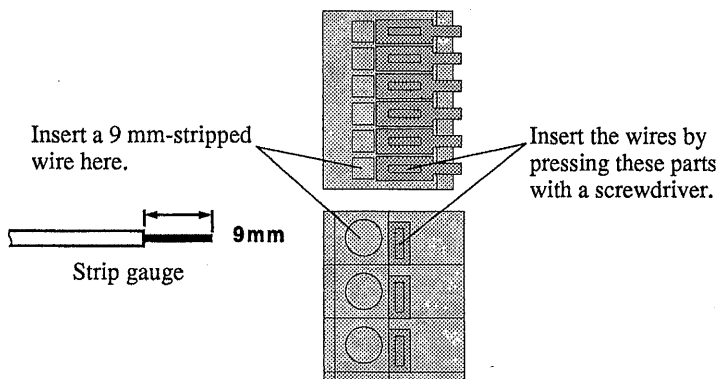

Fig. 3-2 Connection to the control terminals
- Remove the covering from each wire over a distance of 7 to 10 mm (9 mm is recommended). Use of the strip gauge on the top or rear panel of the unit, or that shown in Fig. 3-2, allows you to remove the required amount of covering from a wire.
- ④ Insert wires into control terminals as shown in Fig. 3-2.